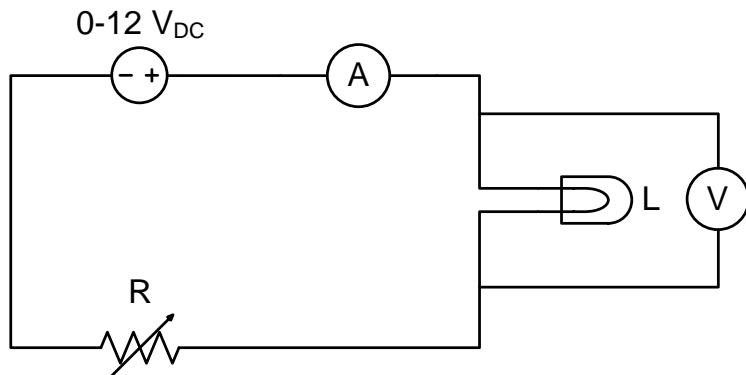

Figure 67
- Construct the circuit is shown in Figure 67 on a breadboard .